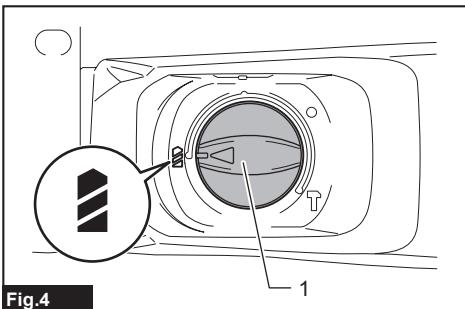

Fig.4
► Fig.4: 1. Action mode changing knob